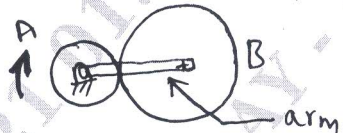

Fig.Q8(b)
b. Two spur gears A and B of an epicyclic gear train is shown in Fig.Q8(b) have 24 and 30 teeth respectively. The arm rotates at 100rpm clockwise direction . Find the speed of gear B on its own axis when gear A is fixed. If instead of being fixed the wheel 'A' rotates at 200rpm in CCW direction, what will be the speed of 'B'?